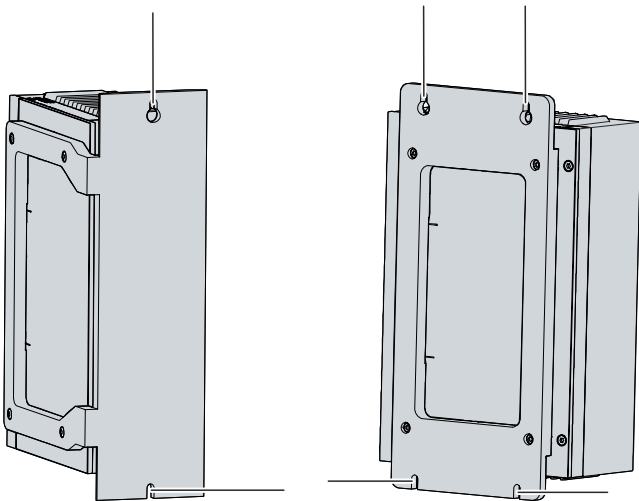

Fig. 18: Positions of the fastening screws
2. Lift the PC far enough so that the fastening screws slip into the keyholes (see fig. 18).